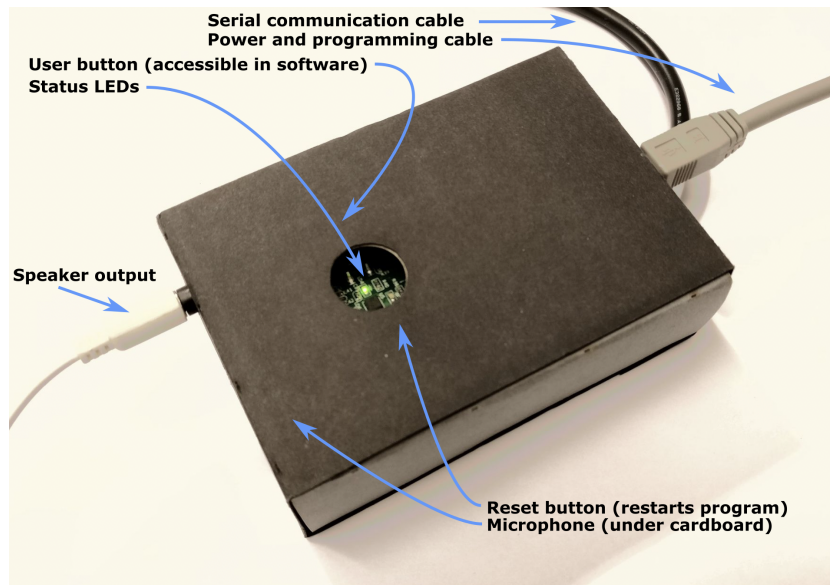

Figure 1: DSP box illustration with input/output, user buttons, and status LED's indicated.
Figure 1 shows the location of all user-accessible input/output on the DSP board. Note that the user and reset buttons are located just outside the circular cutout and are used by lightly pressing on the cardboard case, which is flexible enough to move along with the button.
7. Press the reset button (Figure 1) on the DSP-kit. If all is well something like the following text will be displayed in the serial monitor window (you have to have maximized the monitor to see all the output).